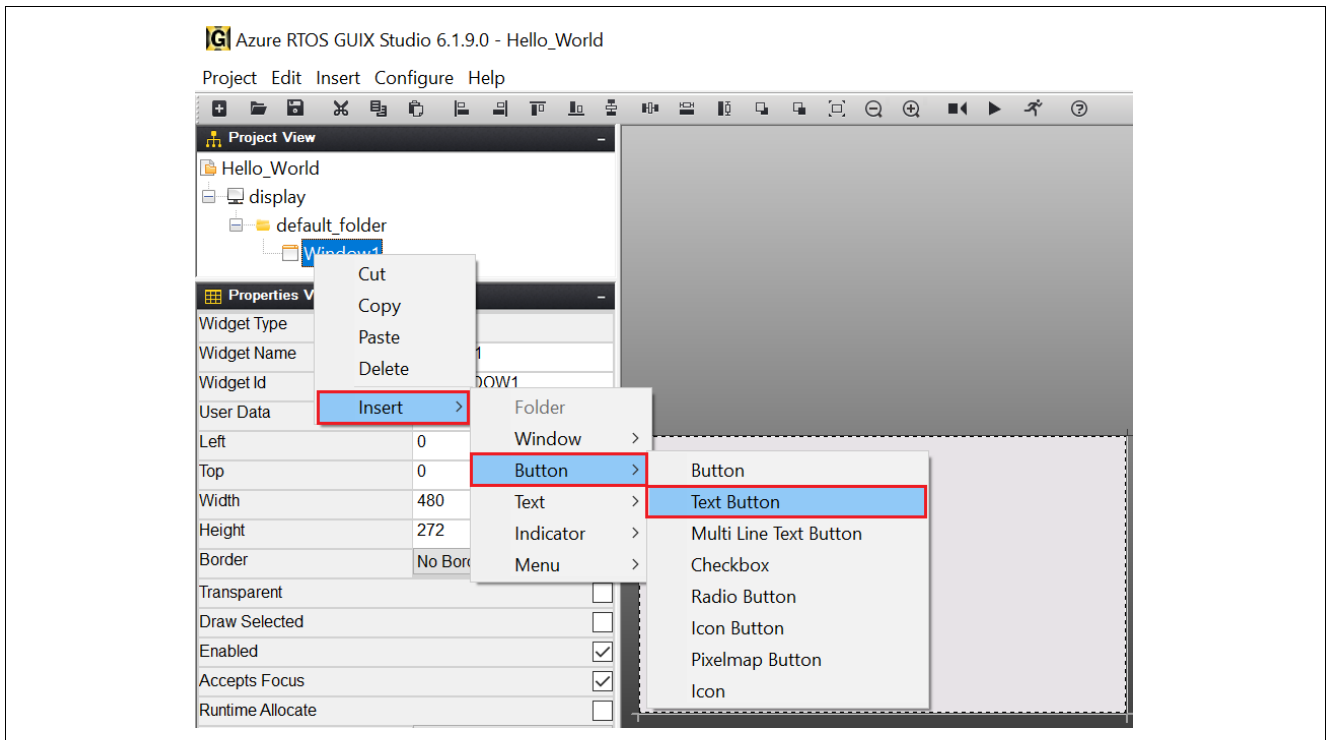

Figure 59. Insert Text Button
- Right-click on **Window1** to insert a **Text Button** and follow Figure 59.